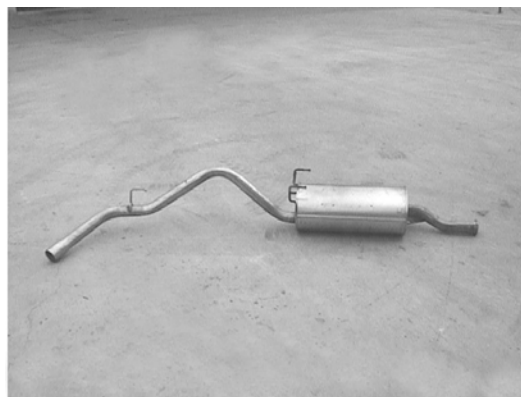

Figure 2
4. Finally, remove the old exhaust system shown in figure 2 from your vehicle.